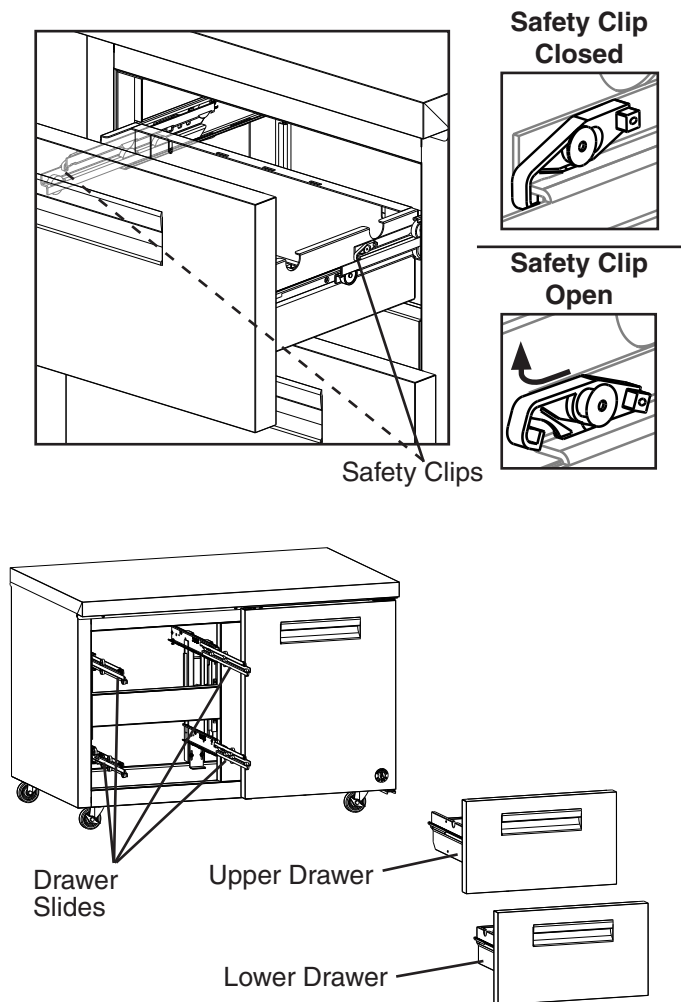

**Fig. 23**
- 2) Remove the drawers. Pull the drawer out to its fully extended position. Open the safety clips (one on each side) by sliding them forward, then rotating them up. See Fig. 23. Lift up on the handle slightly, then pull to disengage the drawer. Be sure to support the rear and front of the drawer while removing it. **WARNING! Be sure to close the safety clips when reinstalling the drawer.**